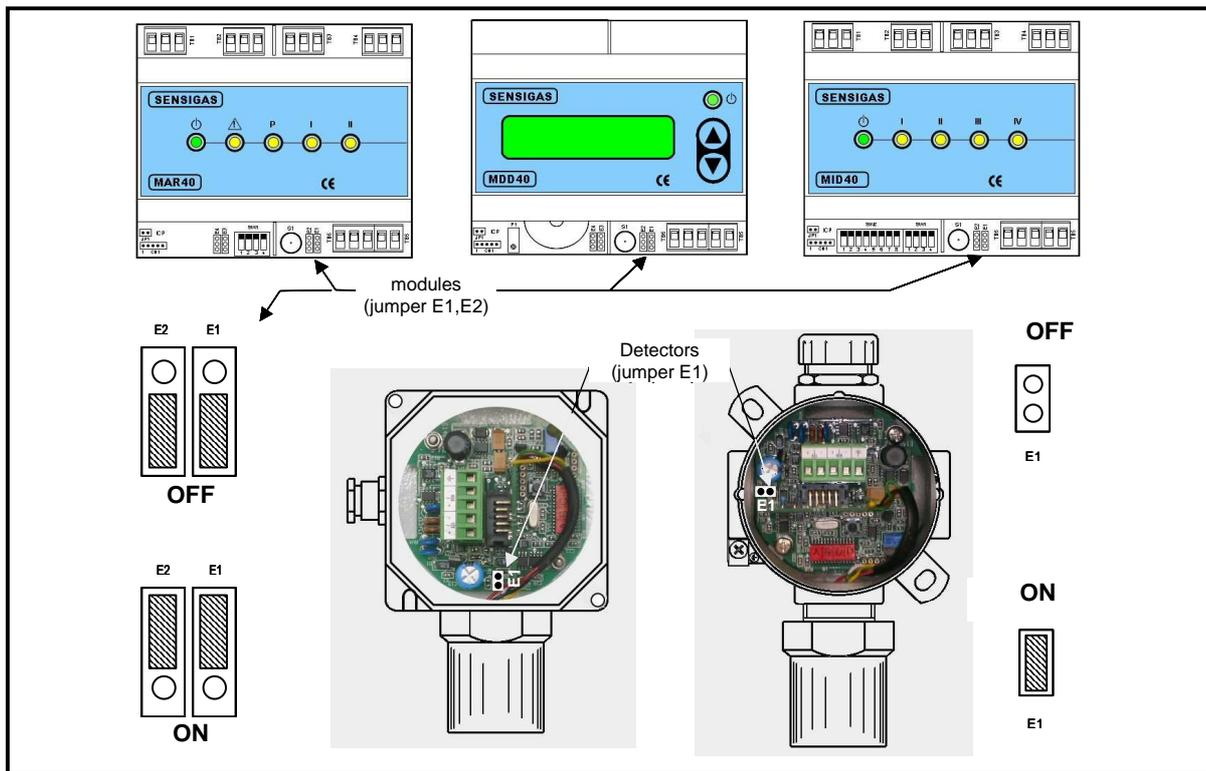

Fig. 4.4 – Position of end-of-line BUS jumpers
- Terminate the termination jumper/s of the BUS (jumper E1, E2 for the modules or jumper E1 for the detectors – Fig. 4.4) on the last field device of the BUS line, **and only on that one.**